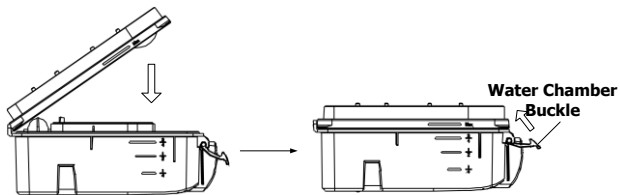

Fig. 5-6
(3) Assembling the Water Chamber: Place the two parts of the water chamber together as shown in Fig. 5-6. Press hard until they click into place.